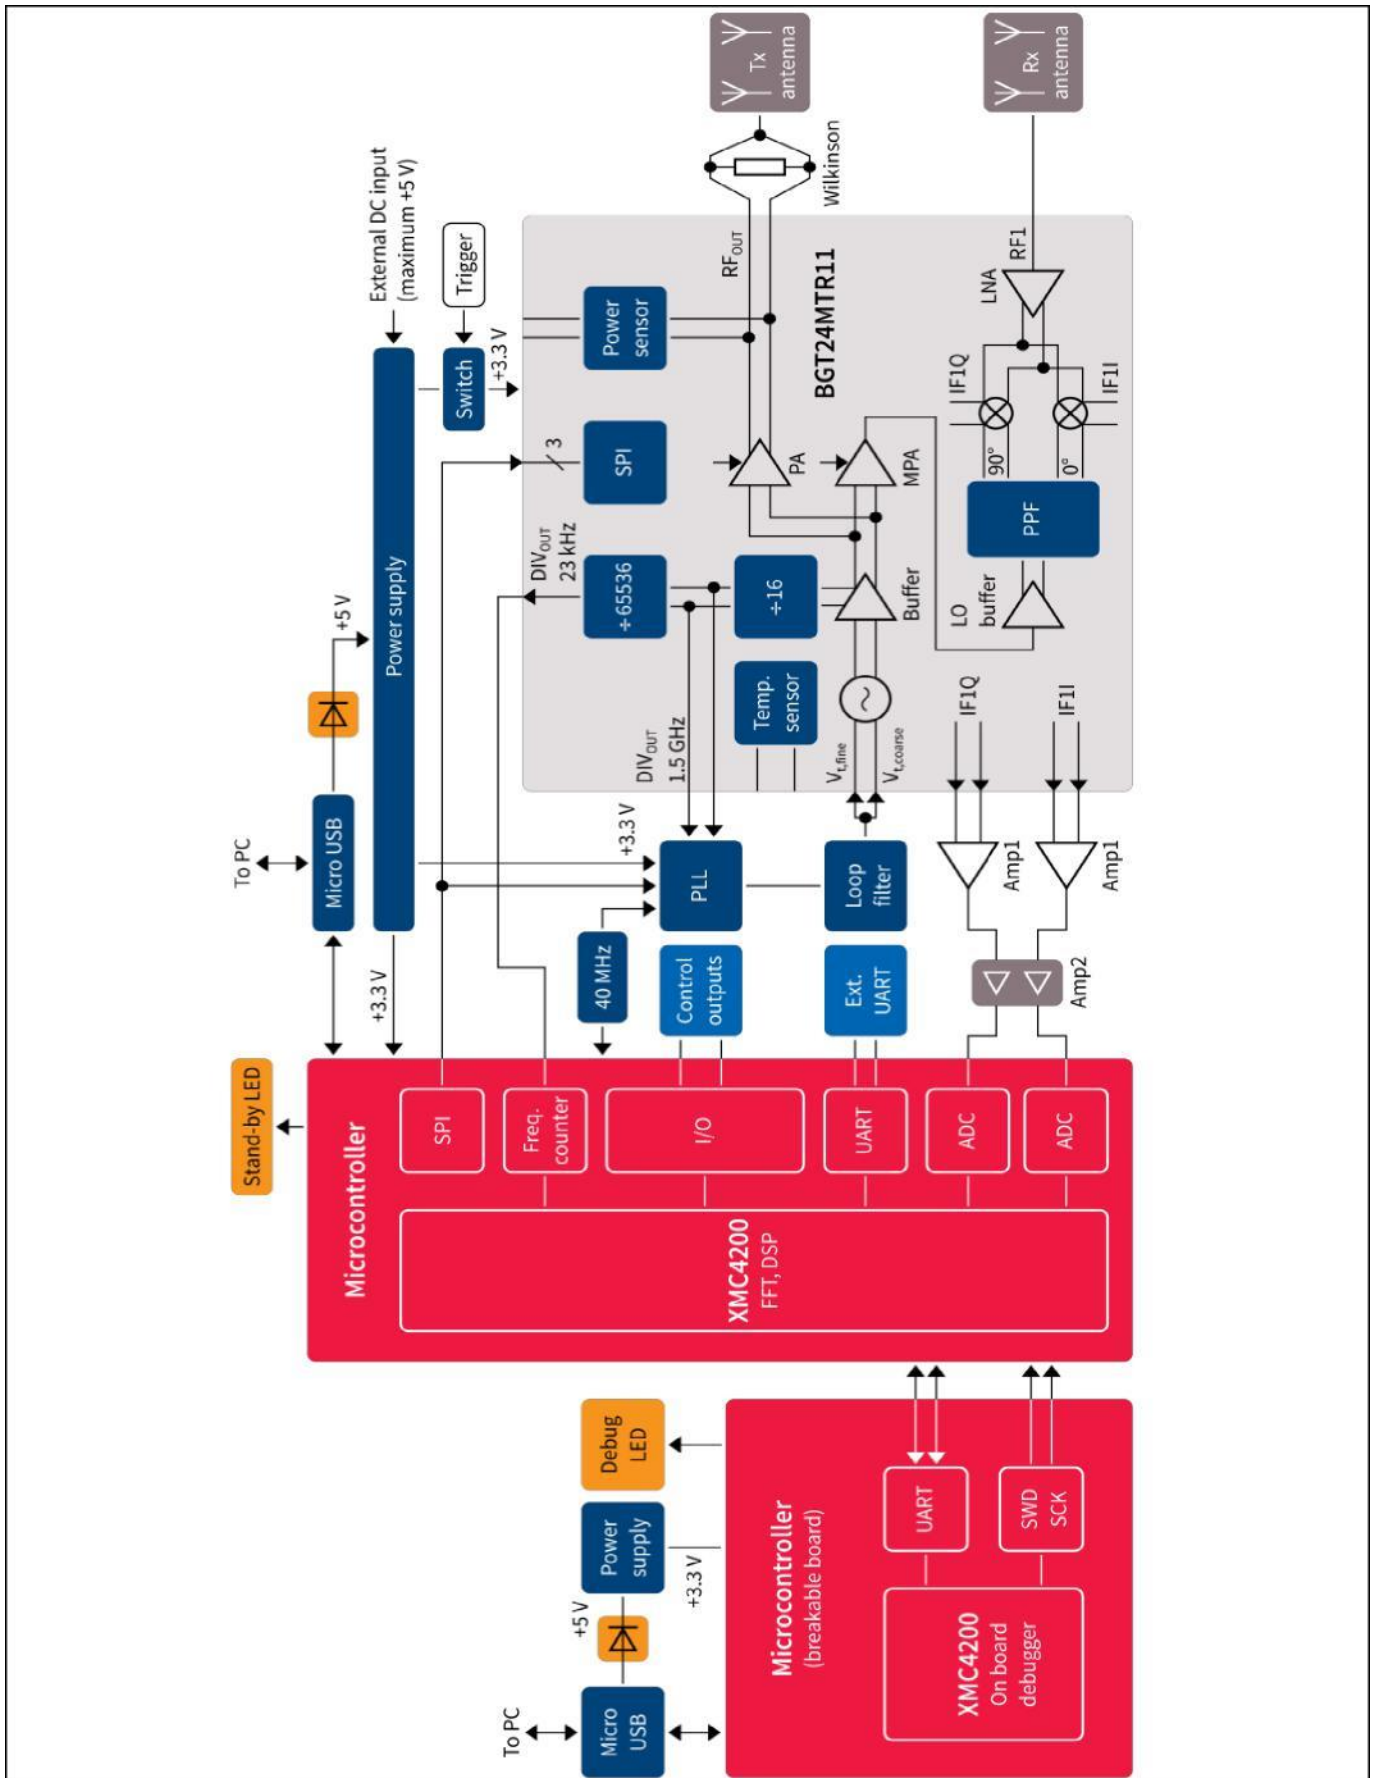

Figure 1 Block Diagram – Distance2Go Module
Figure 1 shows the block diagram of the demo board. The board is split into a radar unit and a breakable debugger unit for programming. The radar unit consists of the highly-integrated 24 GHz transceiver IC BGT24MTR11 with 1 TX and 1 RX. The MMIC features an integrated voltage controlled oscillator (VCO), power amplifier (PA), integrated temperature and power sensors, Prescalers and IQ receivers.